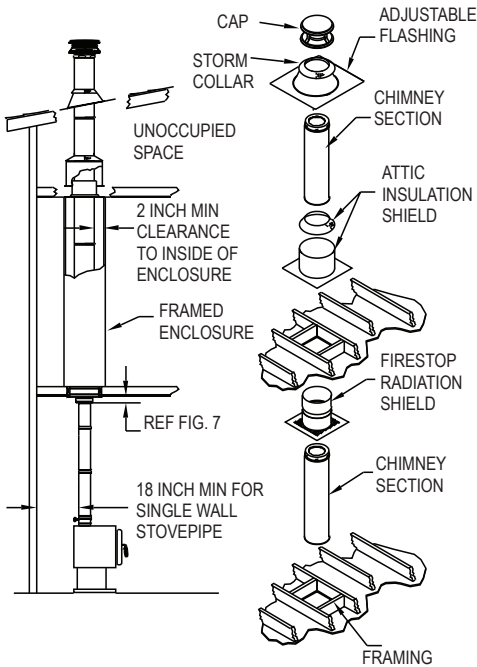
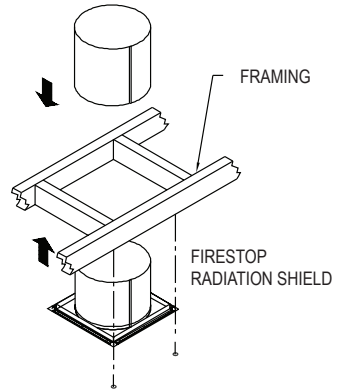

Figure 10
Figure 11
4. Frame Openings: Frame openings in each ceiling or floor above the Support Box (**Fig.10**). These openings are to hold the Firestop Radiation Shield and Attic Insulation Shield. Locate each opening by dropping a plumb bob to the four corners of the opening below. Maintain the framing dimensions as specified in **Table 1**. **Warning: other than the framing for the Reduced Clearance Support Box, any combustible materials around the chimney must meet the minimum 2” clearance requirement.** If Elbows must be used to avoid an obstruction, refer to the Offset Elbow Installation section.
6. Install Firestop Radiation Shield: A Firestop Radiation Shield is required in multistory installations at each floor penetration above that where the Support Box is located. Example: in a multistory home where the appliance is on the ground floor (Support Box is in the 1st floor ceiling), you would need a Firestop Radiation Shield at the 2nd floor ceiling, and at the 3rd floor ceiling, etc., including where the chimney penetrates into the attic. **Fig.10** shows a typical 2-story installation with an attic. Note: a Firestop Radiation Shield is not installed where the chimney penetrates through the roof. The Firestop Radiation Shield is installed on the underside of the ceiling/floor framing, with the cylindrical “tube” portion of the shield pointing upward. (**Fig.11**). Use a minimum of either (1) 8 penny nail or (1) #8, 1-1/2” wood screws
B4. Slip the Attic Insulation Shield over the Chimney and Firestop Radiation Shield until the base sits squarely on the framed opening (**Fig.10, 13**).